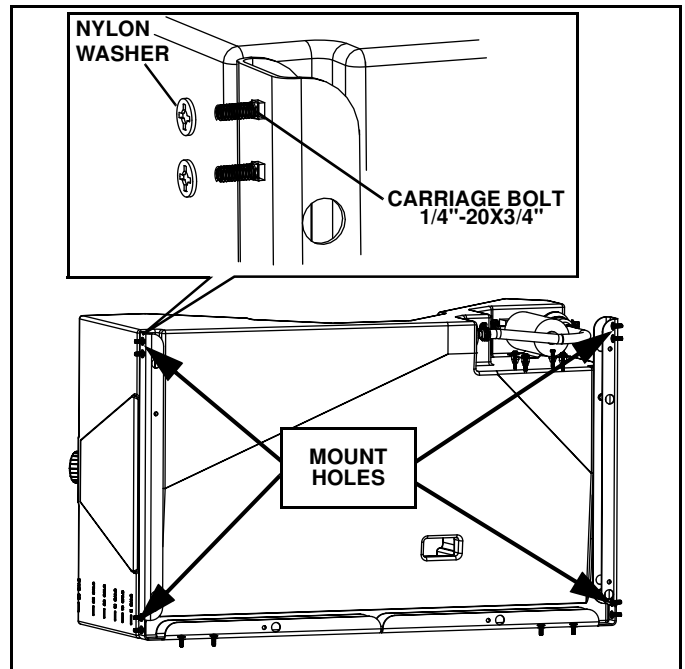

Figure 1-3
2. Tip the tank on its front so the bottom is facing you. (See Figure 1-3)
3. Insert the 1/4"-20 x 3/4" carriage bolts through the mount holes. Slide the self-retaining nylon washers all the way over the threaded end of the carriage bolts. (See Figure 1-3)